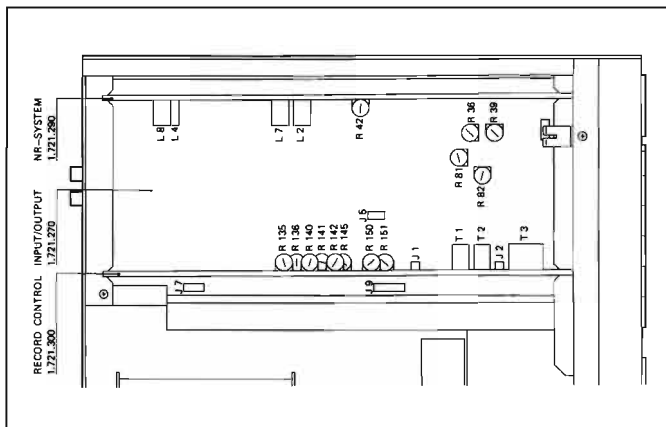

Fig. 5.1
- Align inductors L2 and L4 on NR SYSTEM board to minimum voltage on the output. The attenuation should be ≥ 30 dB (Fig. 5.1)
- With the trimmer potentiometer R42 (on the NR SYSTEM board) adjust the output level of the right-hand channel to the value of the left-hand channel (Fig. 5.1).
- Adjust the display with trimmer potentiometer R26 (on the SYSTEM CONTROL board) to 0 dB (Fig. 5.1).